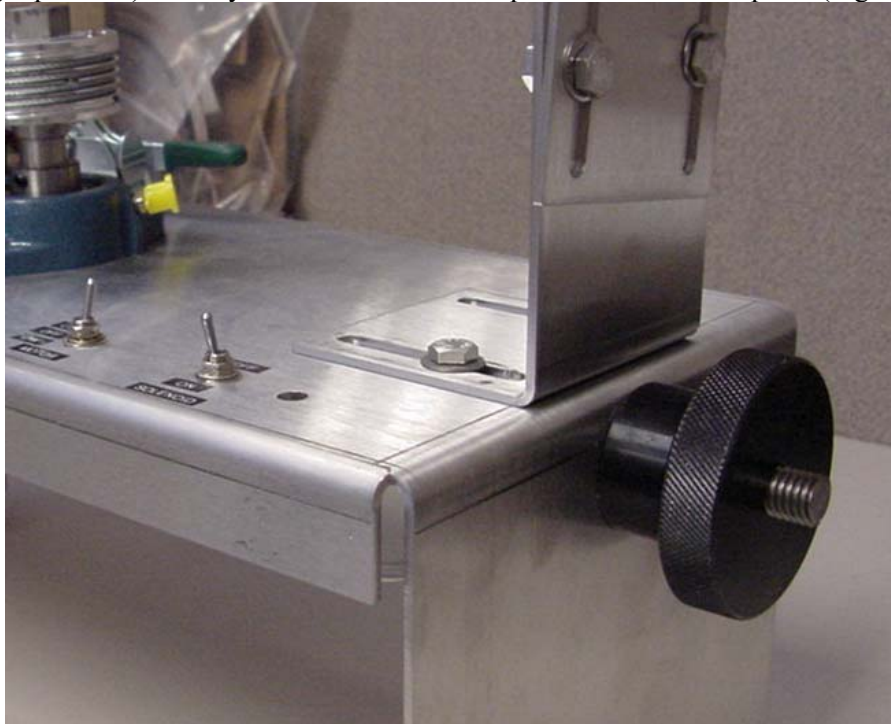

Figure 3-28. Fixture Adjustment Knob
- 1) Pull slack out of cable (or chain) using fixture adjustment knob. Do not over-tighten knob. When properly adjusted, remaining slack in cable (or chain) should allow for approximately 0.25" deflection (using finger pressure) midway between the fixture capstan and the unit capstan (Figure 3-28).